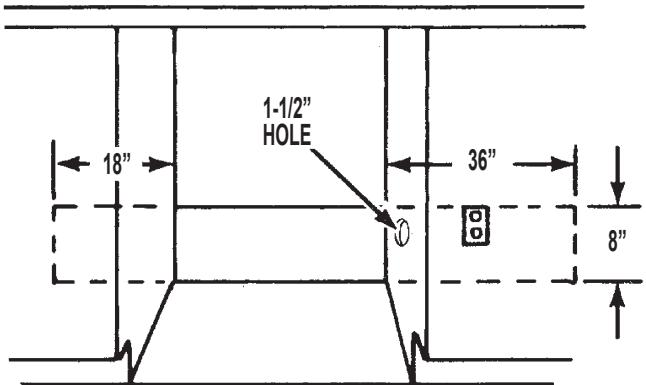

FIGURE 1
- The receptacle outlet should be within a reasonable distance of the dishwasher in order for the cord to reach without being strained. See dotted lines in figure 1.
- If necessary, cut a 1-1/2" (4cm) diameter hole in either of the cabinet side walls to allow the new cord to pass through. See figure 1.